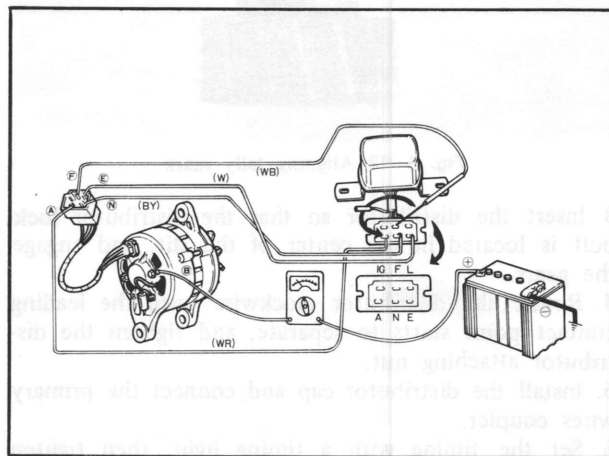

Fig. 5-15 Checking charging system
2. Remove the regulator couplers and connect them by using the proper lead wire as shown in Fig. 5-15.